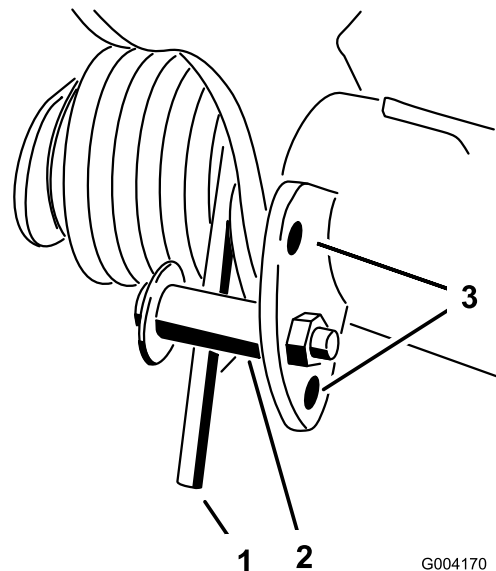

Figure 42
2. Insert a tube or similar object onto the long spring end to relieve the spring tension during the adjustment (Figure 42).
3. While relieving the spring tension, remove the bolt and locknut securing the spring actuator to the bracket (Figure 42).